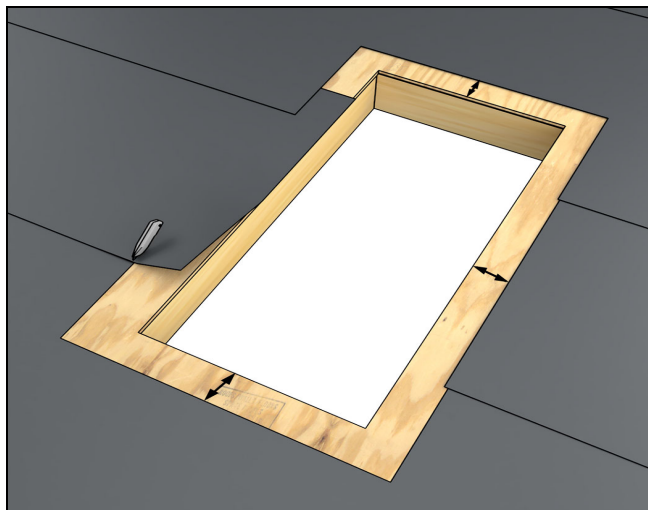
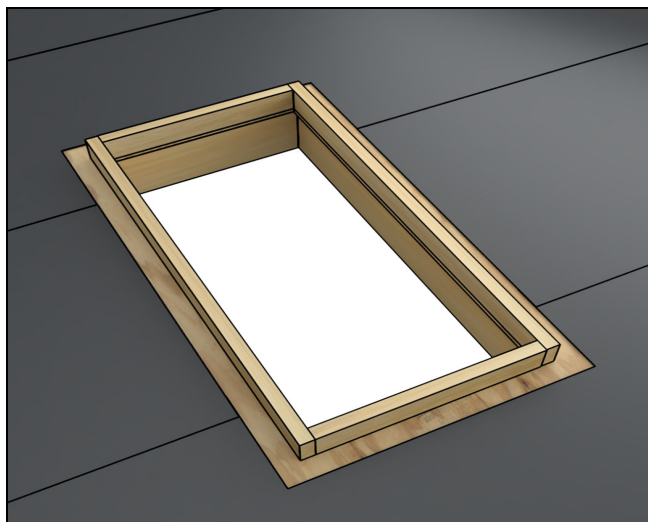

Figure 30
Figure 31
3. Remove 6" of existing roofing and underlayment around the rough opening as shown in Figure 30. Attach curb to roof deck, see Figure 31.